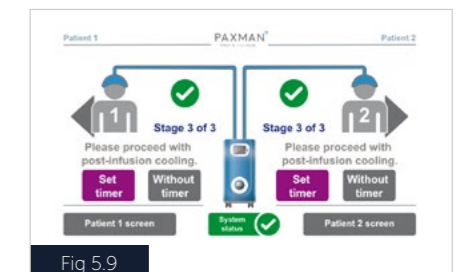

Fig 5.9
- Post Infusion Cooling can be carried out with or without a timer (Fig 5.9).